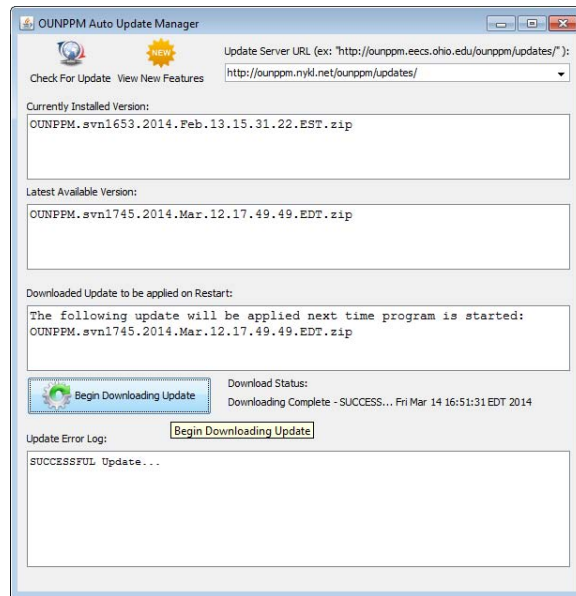

Figure 99: After a successfully downloaded update, OUNPPM must be exited and reopened for the updates to take effect.
3. If a newer version is available and the user would like to upgrade, click on the *Begin Downloading Update* button in mid/lower left part of the screen, as shown in Fig.99.